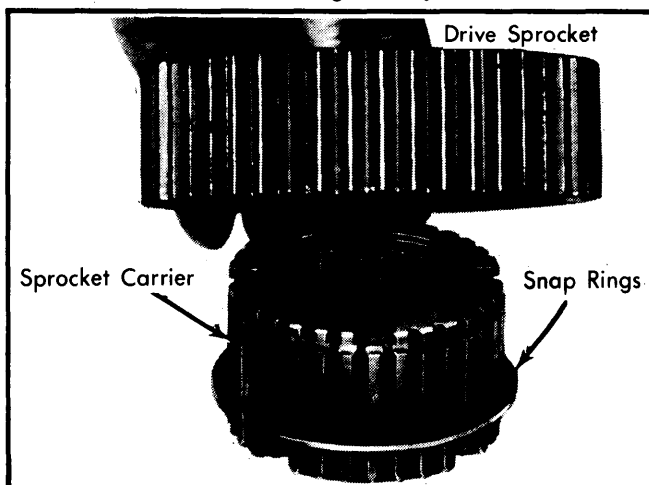

Fig. 6 Installing Drive Sprocket on Sprocket Carrier
3) Install sprocket carrier in drive sprocket and install sprocket carrier snap rings. Be sure to align carrier and sprocket according to reference marks made during disassembly. See Fig. 6.